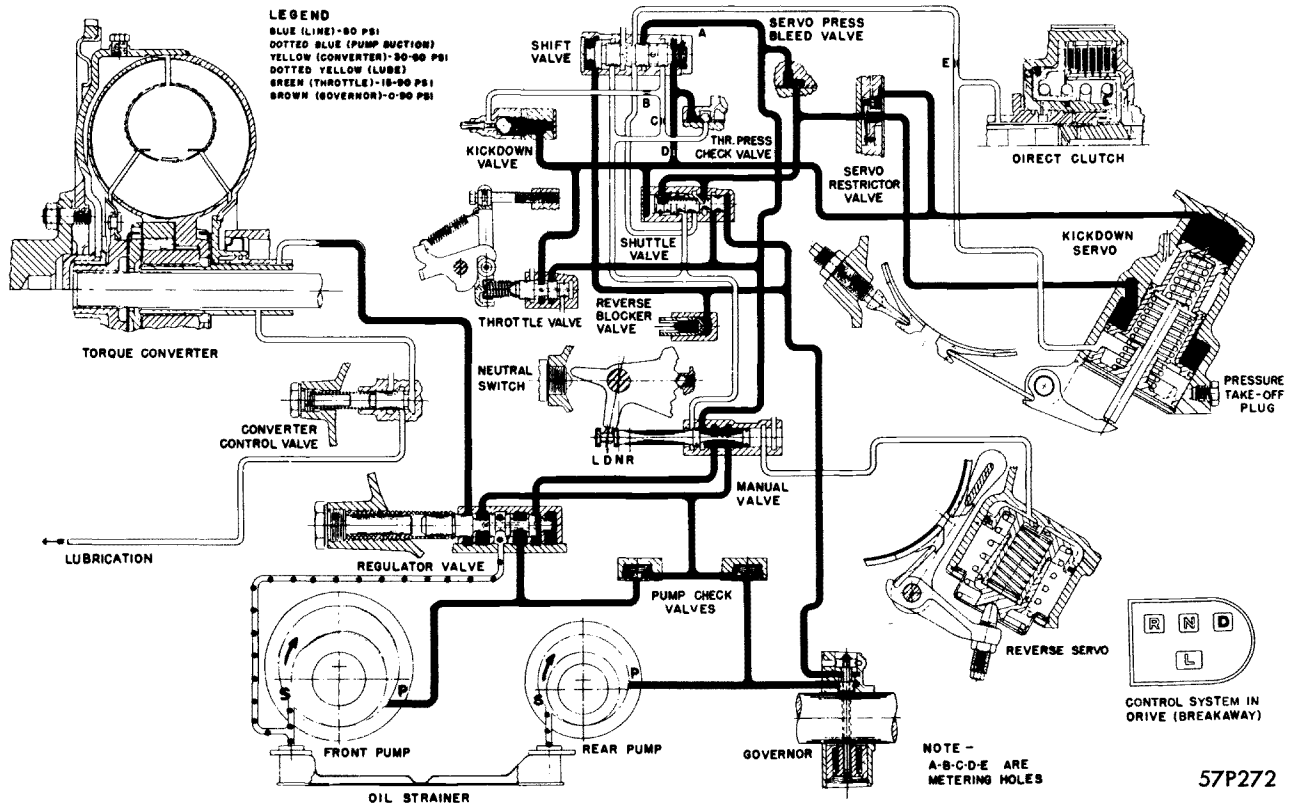

Figure 44—PowerFlite Oil Flow Diagram (Drive—Breakaway)
DRIVE—BREAKAWAY—Placing the panel control in Drive (D), positions the manual valve so that oil flows to the apply side of the kickdown piston. When this occurs, the kickdown band is applied and the transmission is in Low. The direct clutch and reverse band are disengaged at this time. See Figure 44.